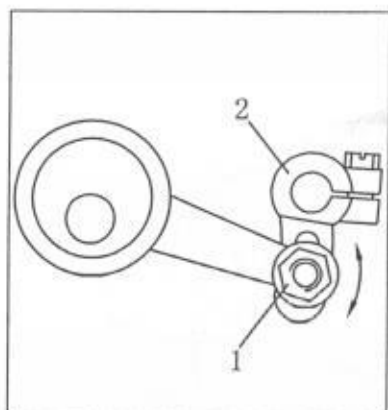

Fig. 15
(A) Loosen the wing nut to adjust the lifting capacity of the clamp. Move it upwards to increase the lifting capacity while downwards to reduce the lifting capacity (Fig. 15). After adjustment tighten the nut.